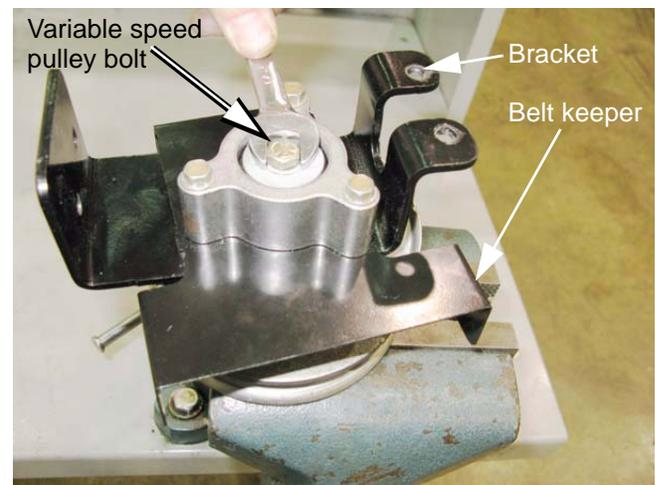

Figure 6.45
- 9b. Use a 1/2" wrench to remove the pulley bolt. See Figure 6.45.